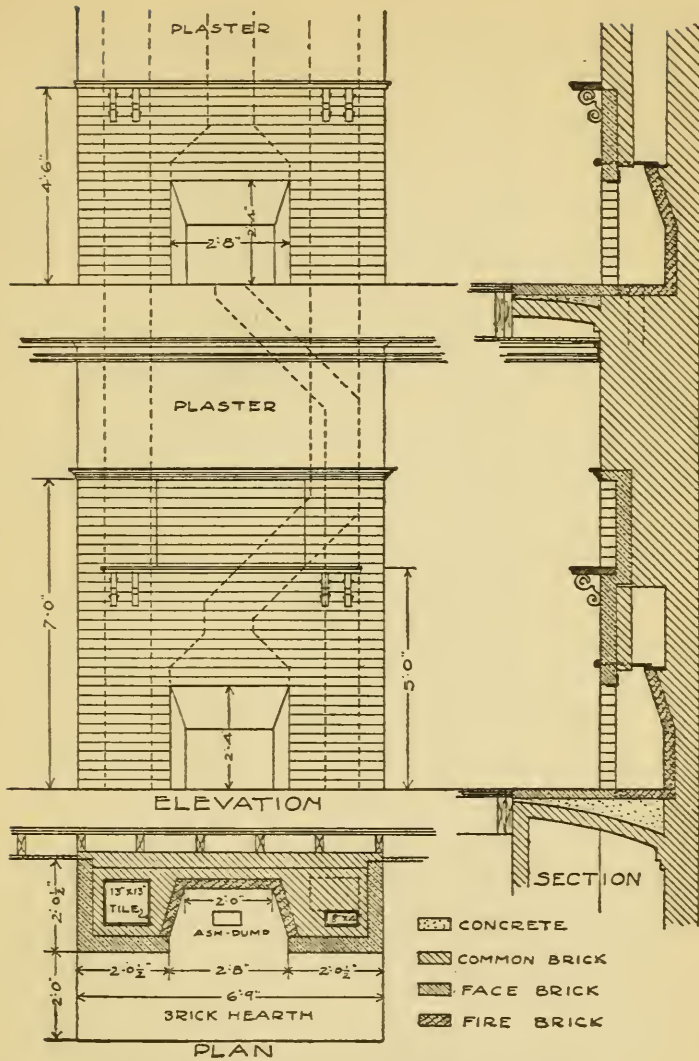

Fig. 58. A Typical Fireplace Construction.
**Fireplaces.** Fig. 58 shows a typical fireplace construction. The flues are all dotted on the